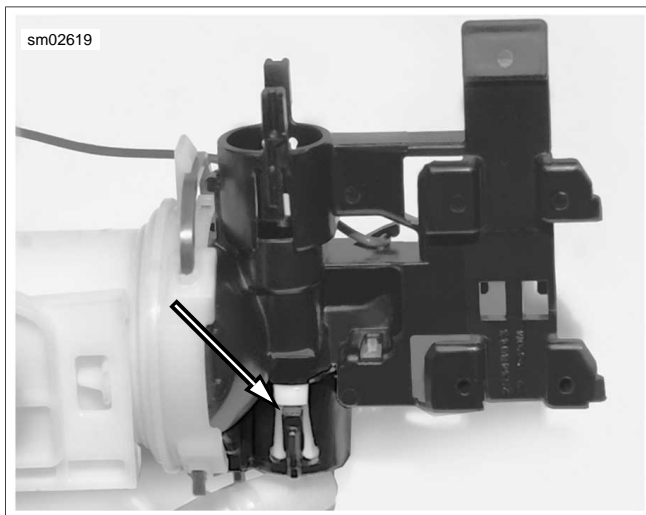

Figure 4-46. Fuel Pump Hose Retaining Clip (2)
1. See Figure 4-46. Using screwdriver, break tabs securing fuel pump hose to end cap.
10. See Figure 4-46. Install fuel pump hose into **new** end cap.